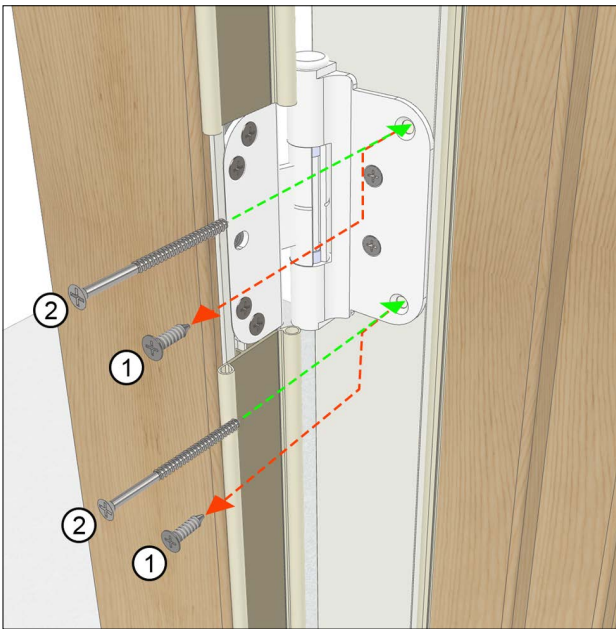

Figure 6
3. On XOR/OXL, X and XX configurations, replace the top and bottom screw on each hinge with a #8 x 2-1/2" color matched screw and shim. See Figure 6.